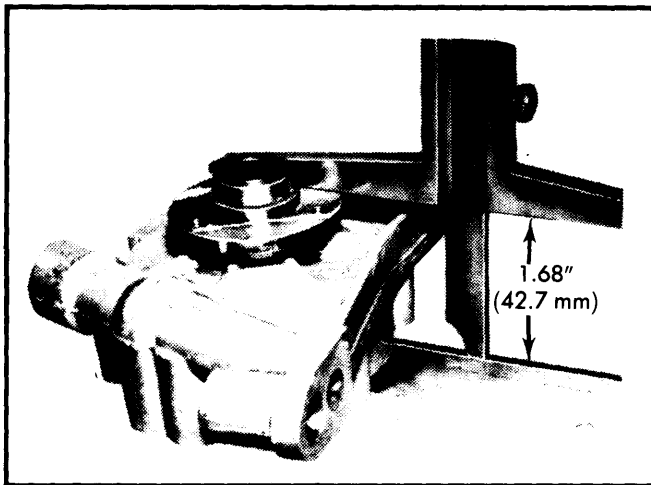

Fig. 12 Measuring Distance Between Flange and Rotor Face
4) Using suitable puller, remove drive flange from rotor shaft. Press drive flange on new rotor shaft to a distance of 1.68" (42.7 mm) between flange and rotor face (See Fig. 12).